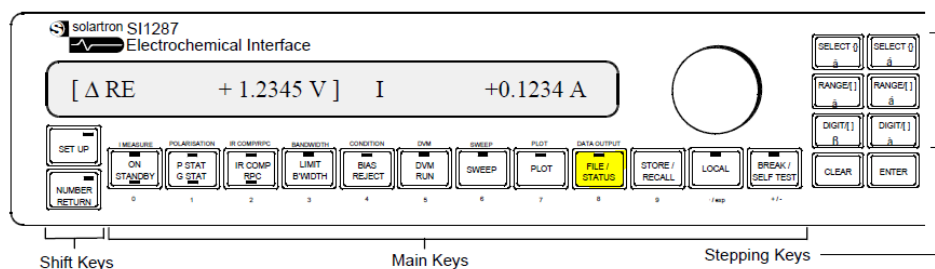

Figure 5
- If the communications test fails, a status test should be performed directly on the 1287A to determine which GPIB address is being used by the 1287A. To do this, click on the File/Status button in the “main keys” section on the front panel of the equipment as shown in Figure 5.